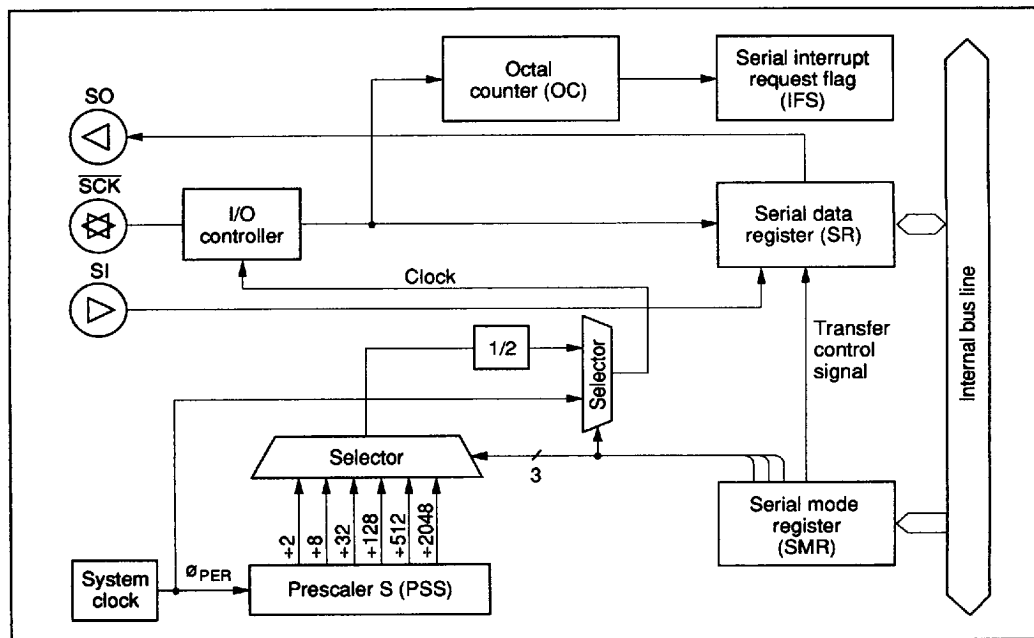

Figure 29 Serial Interface Block Diagram
The serial interface consists of a serial data register (SR), serial mode register (SMR), port mode register A (PMRA), octal counter, and selector, as shown in figure 29. The $R10/\overline{SCK}$ pin and the transmit clock are controlled by writing data to the SMR. The transmit clock shifts the contents of the SR, which can be read and written to by software, before transmission starts between two MCUs.